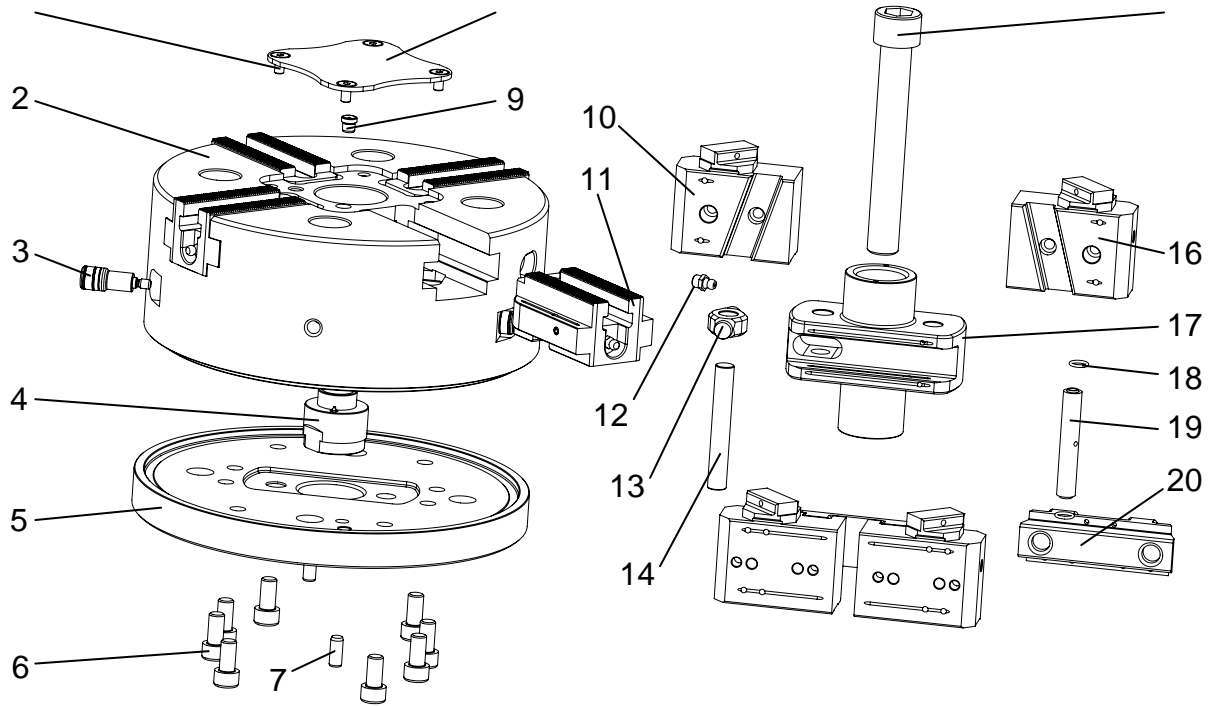

Fig. 8-1: Spare parts
- Step 1** Look for the desired part in figure 8-1.